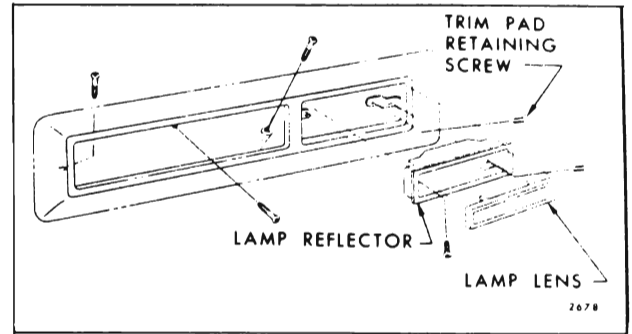

Fig. 14-11—Door Trim Courtesy Lamp - Cadillac "E" Body (Other Cadillacs Similar)
7. On all Cadillac Styles, remove door courtesy lamp lens and disconnect lamp from wiring harness connector and remove screw behind lens. This screw is inserted through door trim pad into door inner panel. (Fig. 14-11)